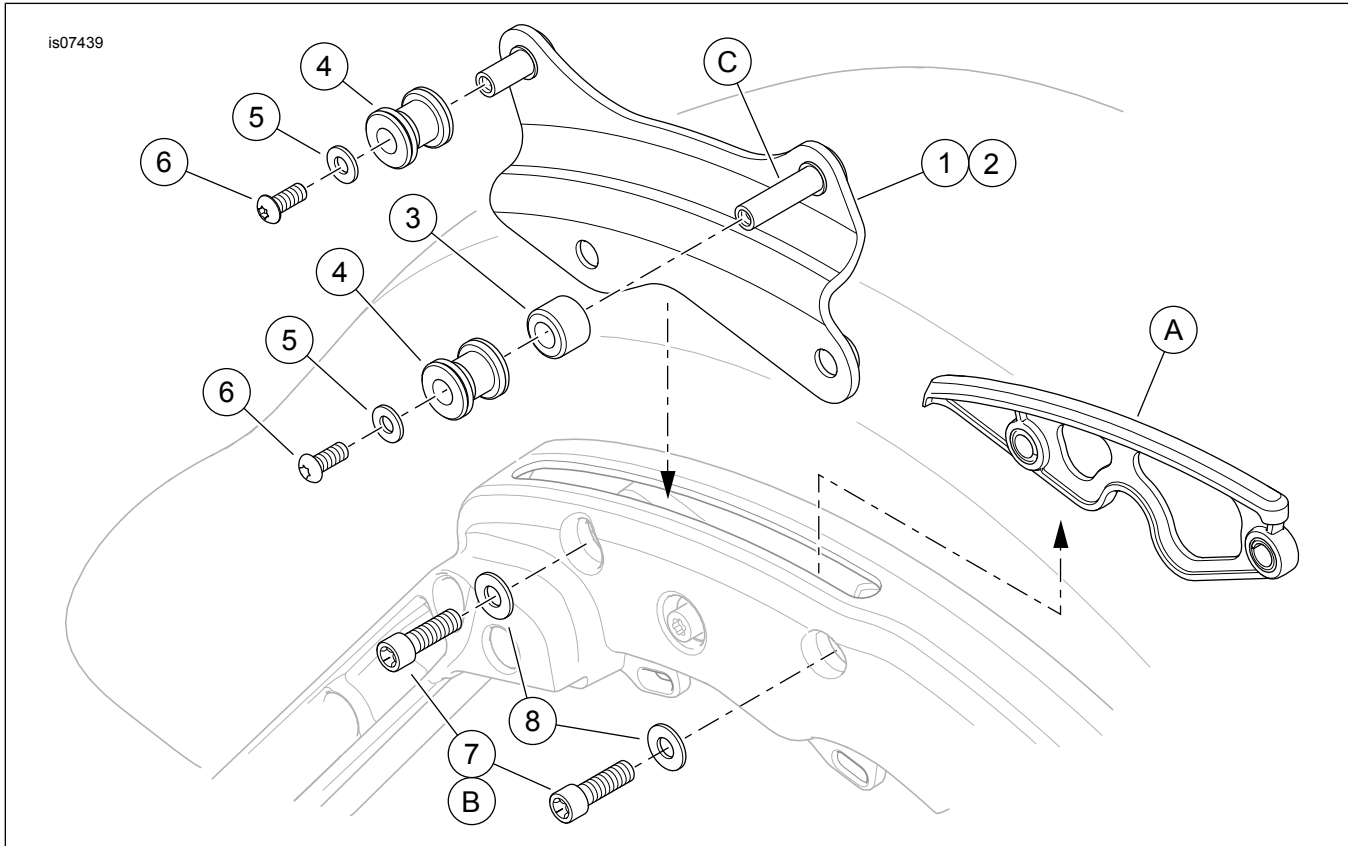

Figure 2. Service Parts, Four-Point Detachable Docking Hardware Kit
See Figure 2 and Table 1.
2. See Figure 2. Remove two screws (B) from the saddlebag support on each side. Lift the slot cover inserts (A) from the slots in the supports.
6. See Figure 2. Slide a spacer (3) onto the longer pin (C) of each docking plate. Slide a docking point (4), chamfer end first, onto each docking plate pin. Install a chrome washer (5) onto each of the **smaller** screws (6) from the kit. Apply 2 or 3 drops of Loctite 243 - Blue to the threads of each screw.